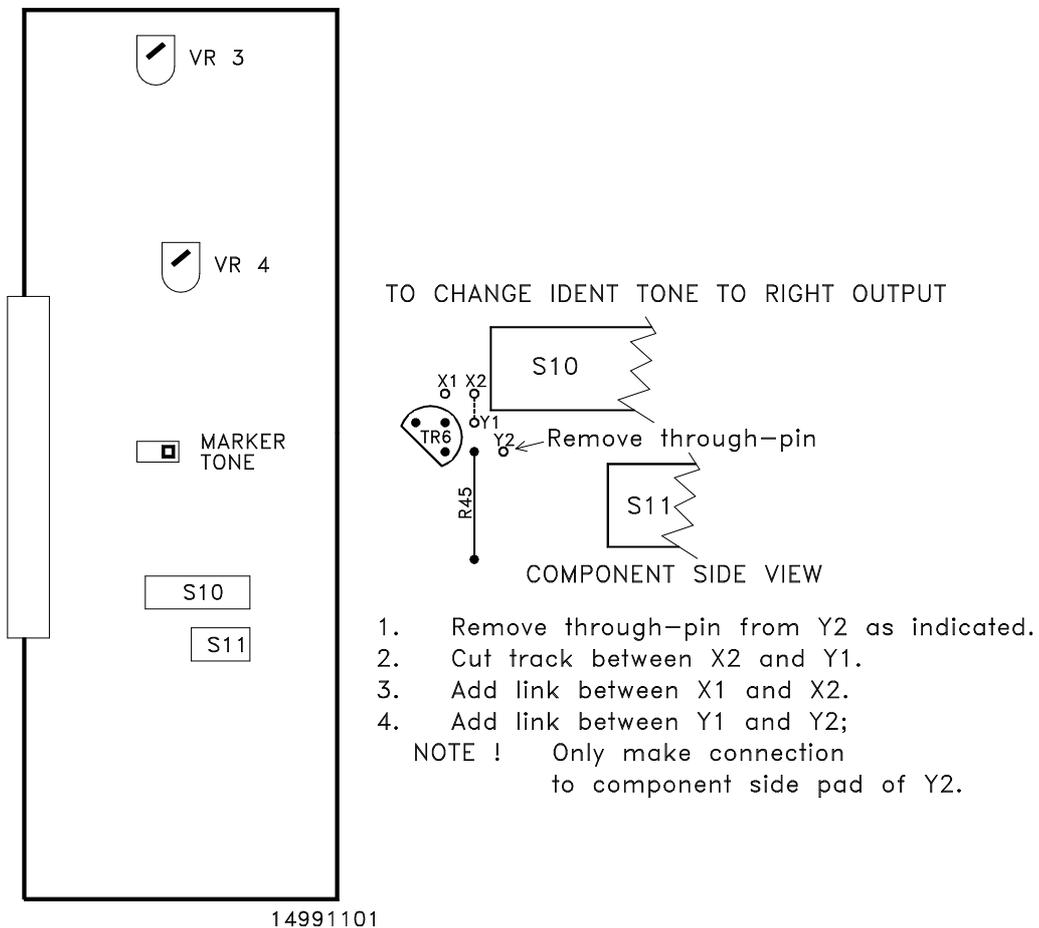

FIG 13
REM (22) is a latching switch to start and stop a tape recorder fitted with a remote stop/start function. Via a DIL switch on the right-hand PCB, it can be arranged for each recording to be 'topped and tailed' with a marker, ie a few seconds of low-frequency tone. To INHIBIT the marker tone, set DIL switch to the left. (Refer to FIG 13)
Line-up-tone oscillator - the preset (VR4) that adjusts its level at the outputs of the mixer is mounted on the right-hand PCB of the output module and can be adjusted from the copper foil side of the board. (Refer to FIG 13)
Low-battery indicator - the preset (VR3) associated with this facility is mounted on the right-hand PCB of the output module. The low reading is set at the factory and corresponds to a set of batteries having discharged to 10V. On a VU meter, low volts is at 0VU. On a PPM meter it is indicated by a separate marking: yellow on a BBC scale and red on an N10 and SDR scale. (Refer to FIG 13)